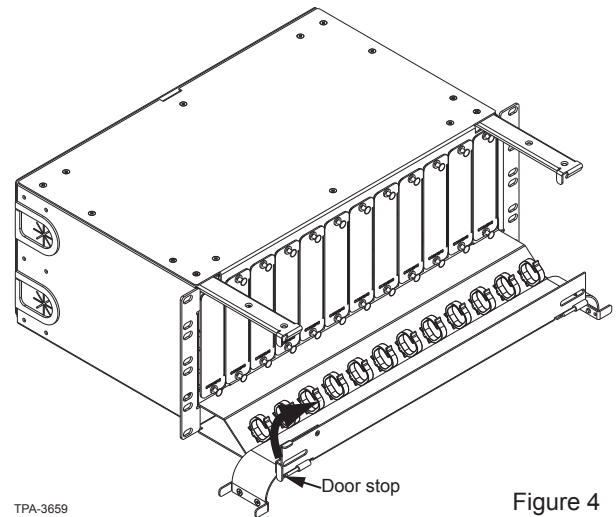

Figure 4
- Step 1:** Remove front and rear doors, if desired (Figure 4).